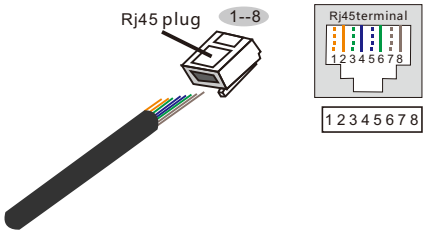

Figure 4.4 Strip the insulation layer and connect to RJ45 plug
2. Use the network wire stripper to strip the insulation layer of the communication cable. According to the standard line sequence of figure 4.4 connect the wire to the plug of RJ45, and then use a network cable crimping tool to make it tight.